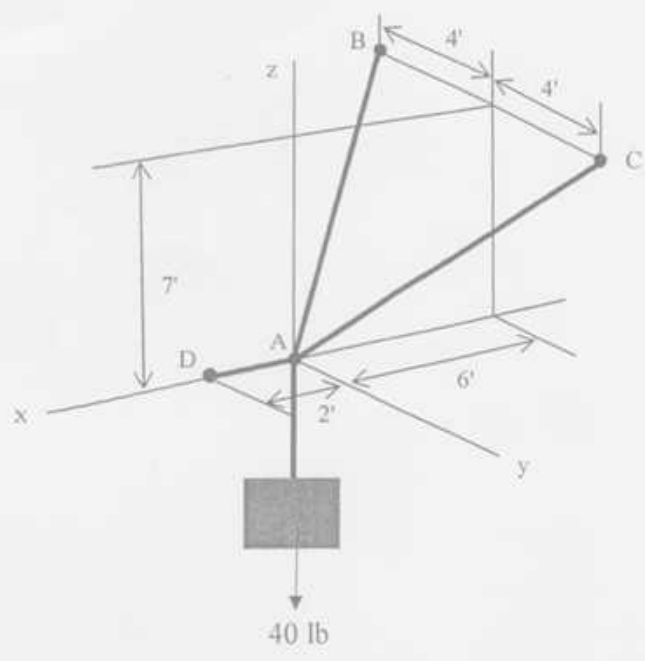

Figure 12
13. Determine the force in each cable used to support the 40-lb crate shown in Figure 12.